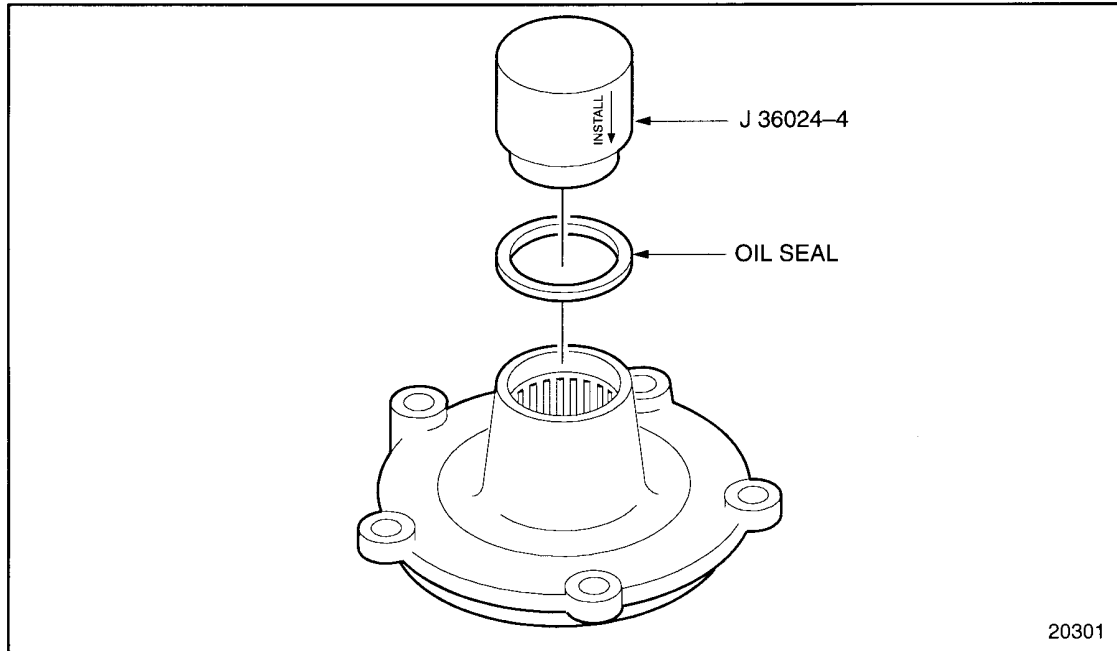

Figure 1-402 Accessory Drive Oil Seal Installation
6. Install the accessory drive oil seal to the accessory drive housing using the seal installer, J 36024-4 part of J 36024-C, and a plastic hammer or fiber mallet. The oil seal must be installed flush to 0.25 mm (0.010 in.) below the face of the housing. See Figure 1-402.